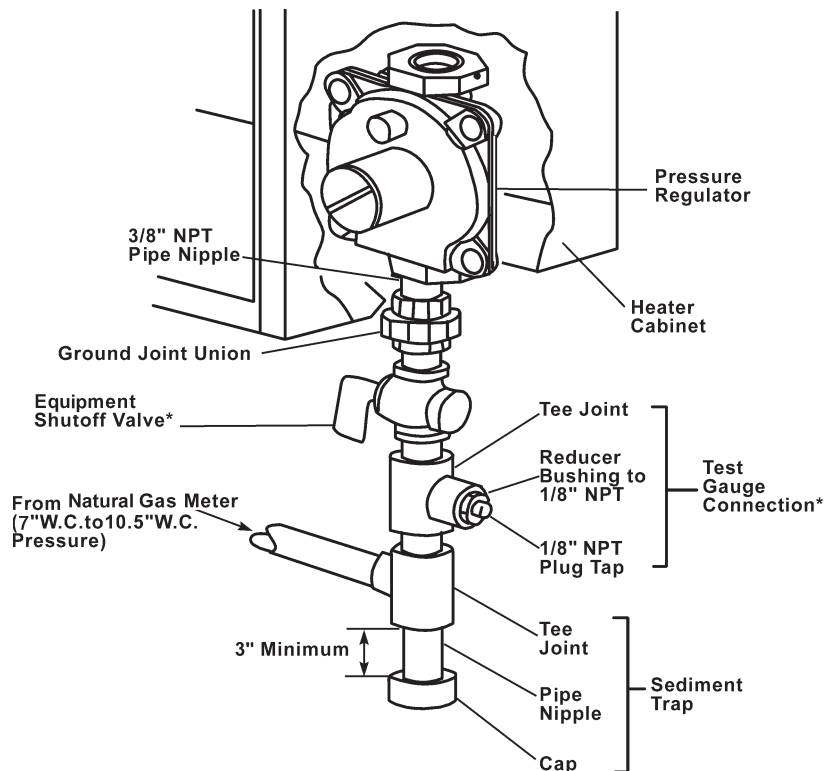

Figure 13 -Gas Connection
Installation must include an equipment shutoff valve, union, and plugged 1/8" NPT tap. Locate NPT tap within reach for test gauge hook up. NPT tap must be upstream from heater (see Figure 13).
Install sediment trap in supply line as shown in Figure 13. Locate sediment trap where it is within reach for cleaning. Locate sediment trap where trapped matter is not likely to freeze. A sediment trap traps moisture and contaminants. This keeps them from going into heater controls. If sediment trap is not installed or is installed wrong, heater may not run properly.
1. Close equipment shutoff valve (see Figure 13).